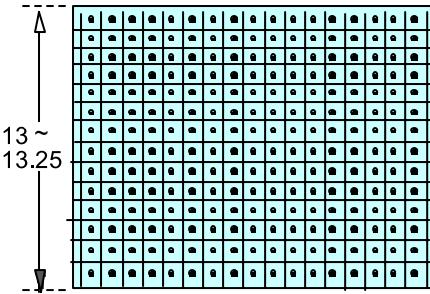

Fig.1-6 PAL CONVERGENCE
2. Use the VOLUME + or - key on the remote controller to adjust the number of upper and lower boxes within the range specified in SPEC. (Fig. 1-6)